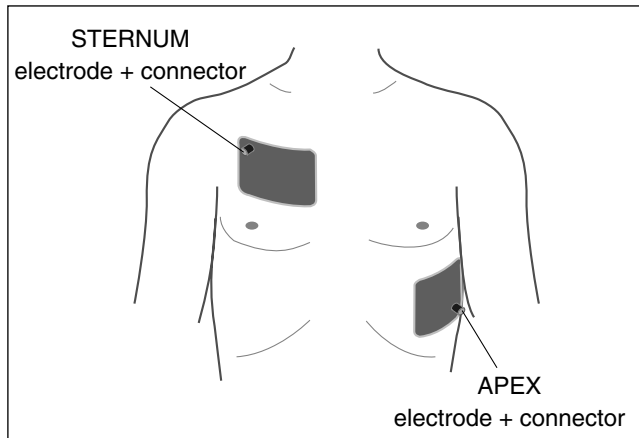
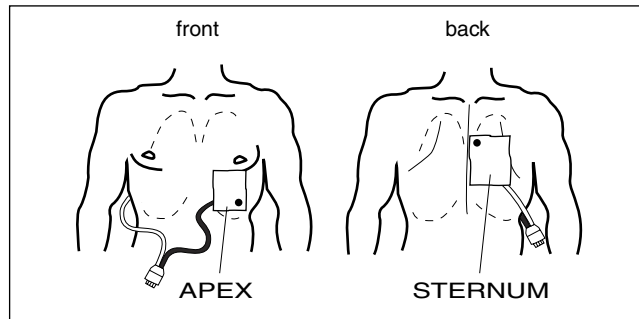

Figure 4-10. Anterior – anterior placement
Figure 4-11. Anterior – posterior placement
- * Apply the pads (part no. 919 202 94 adult pads, part no. 919 202 95 pediatric pads) as shown in Figure 4-10 for an anterior-anterior placement, and as shown in Figure 4-11 for an anterior-posterior placement: